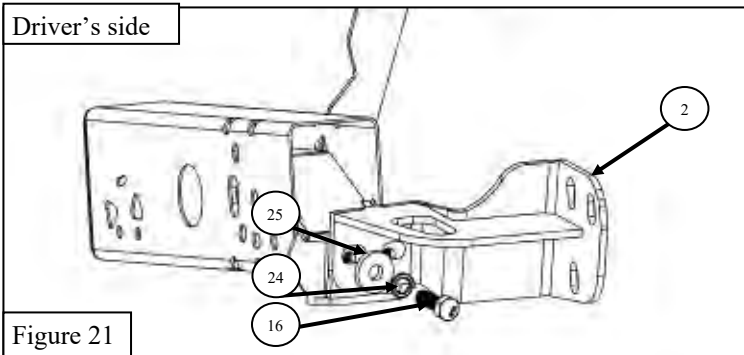

Figure 21
- Mount the Cross Tube (item 12) to the Grille assembly using the M12 Hex socket button head hardware (items 29 & 31)
25. Once both are installed, loosely install the Mount Bottom Bracket (items 2 & 3) using the M12 hex head cap screw hardware (items 16,24, & 25). See **Figures 21 & 22**.
26. Install Cross Tube mount (item 12) using M12 (Only if Winch is not being installed)